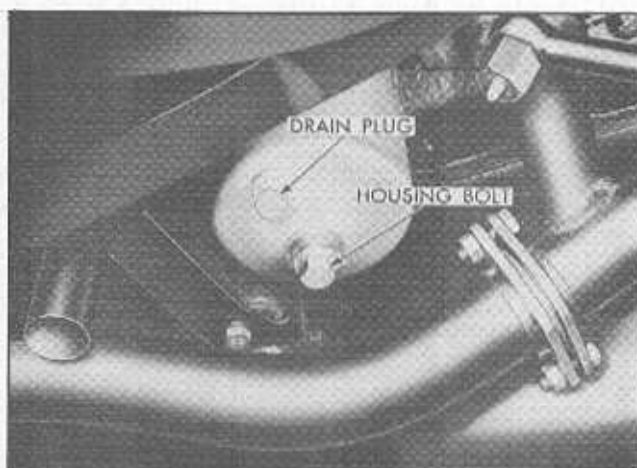

Fig. 6A-8 Oil Filter Drain Plug
1. Remove filter drain plug (Fig. 6A-8) and allow oil to drain out of housing.